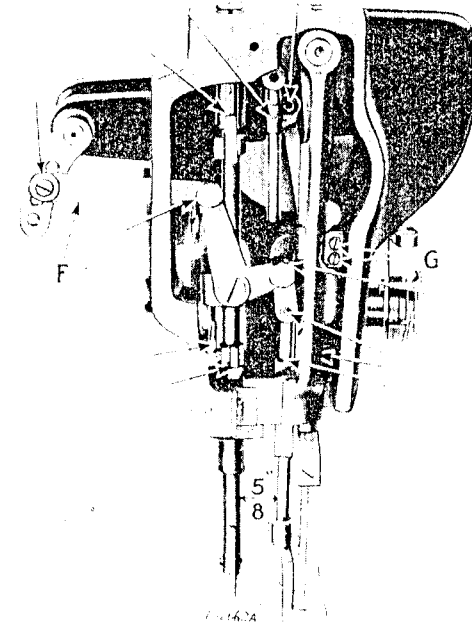

Fig. 4. End View of Machine Showing Oiling Points
In case the needle bar is not correctly set, loosen the needle bar connecting stud pinch screws (G, Fig. 4) and place the needle bar in correct position as directed above, then retighten the screws (G).
The distance between the vibrating presser bar and lifting presser bar, after turning the feed regulating spindle head so that there is no feed movement of the needle bar, should be $5/8$ inch as shown in Fig. 4.
The height of lift of the pressers is adjustable by moving the link (F, Fig. 4) to any of the four holes in the rock shaft crank. The maximum lift is secured with the link in the bottom hole. The amount of lift should be regulated according to the thickness of the material being sewn. The feet should lift just high enough to clear the material.